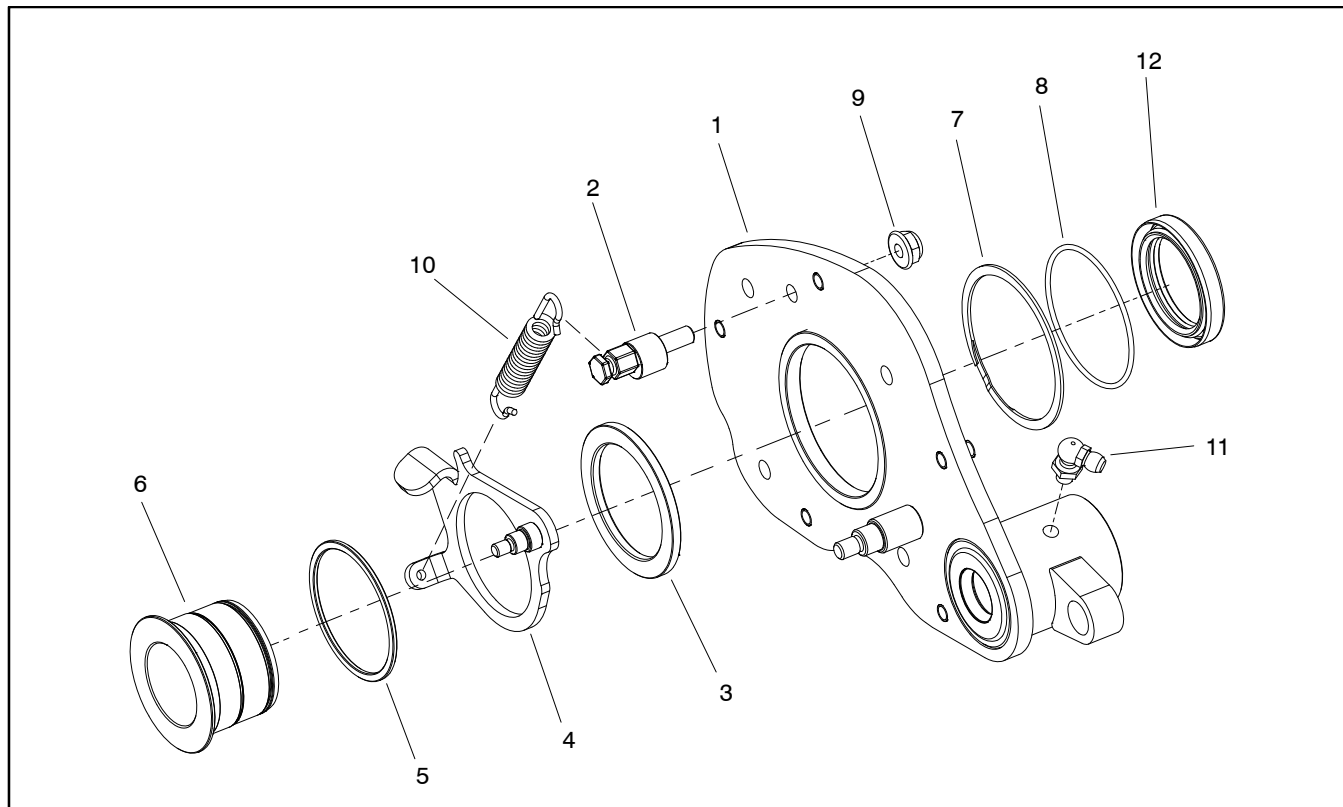

Figure 27
Disassembly (Fig. 27)
6. Using Figure 27 as a guide, remove idler components from RH drive plate as needed.
Assembly (Fig. 27)
1. Assemble idler components to RH drive plate using Figure 27 as a guide. Make sure that retaining ring (item 7) is fully seated in groove of reel hub after assembly.